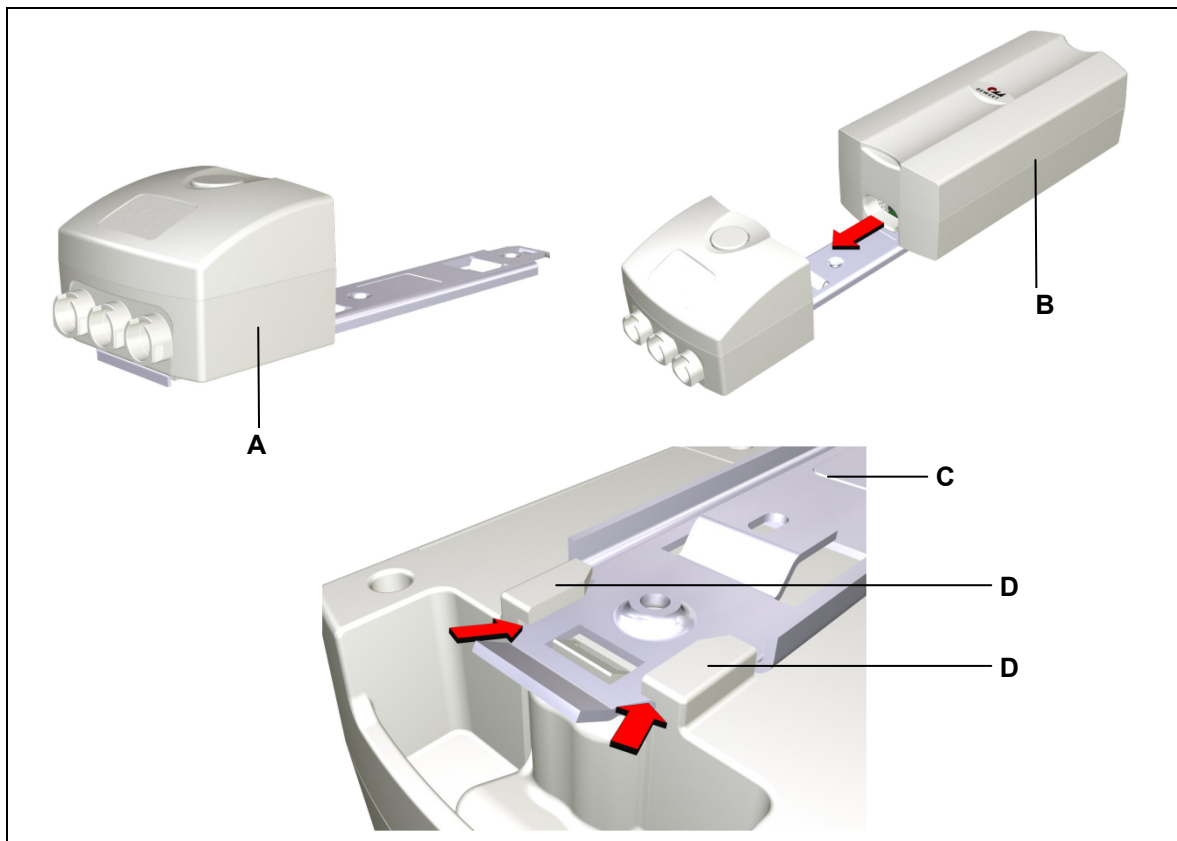

Figure 19 Inserting the ACCU AC 4.5 and ACCU AC 4.5DC in the charging station
- 3** Slide the ACCU on the charging station (as shown in Figure 19) until it clicks into place. The housing guide tabs must enclose the mounting rail to ensure a tight fit.